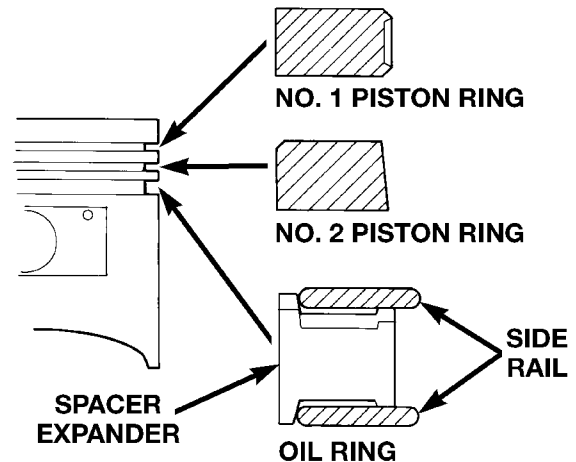

Fig. 81 Piston Ring Installation
(1) Install rings with manufacturers I.D. mark facing up, to the top of the piston (Fig. 81).
(2) Install upper side rail first and then the lower side rail.
(3) Install No. 2 piston ring and then No. 1 piston ring (Fig. 81).